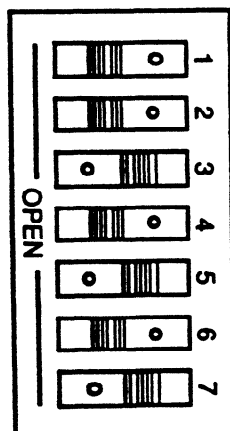

Figure 3.3 TYPICAL I/O BACKPLANE DIP SWITCH
3. Set the I/O CCM module address using the backplane DIP switch package. (Reference Figure 3.3, Table 3.1)
Before installing the module, set the backplane DIP switches (located adjacent to the card slot in the Series Six rack) to establish which group of eight consecutive input points in the CPU I/O tables will be used by the module. Figure 3.3 illustrates a typical I/O DIP switch set for address 673-680. Table 3.1 shows switch settings for all possible module addresses. Refer to a later section "Running at the DPU Executive Window", to set the I/O CCM module to run at the DPU Executive Window.